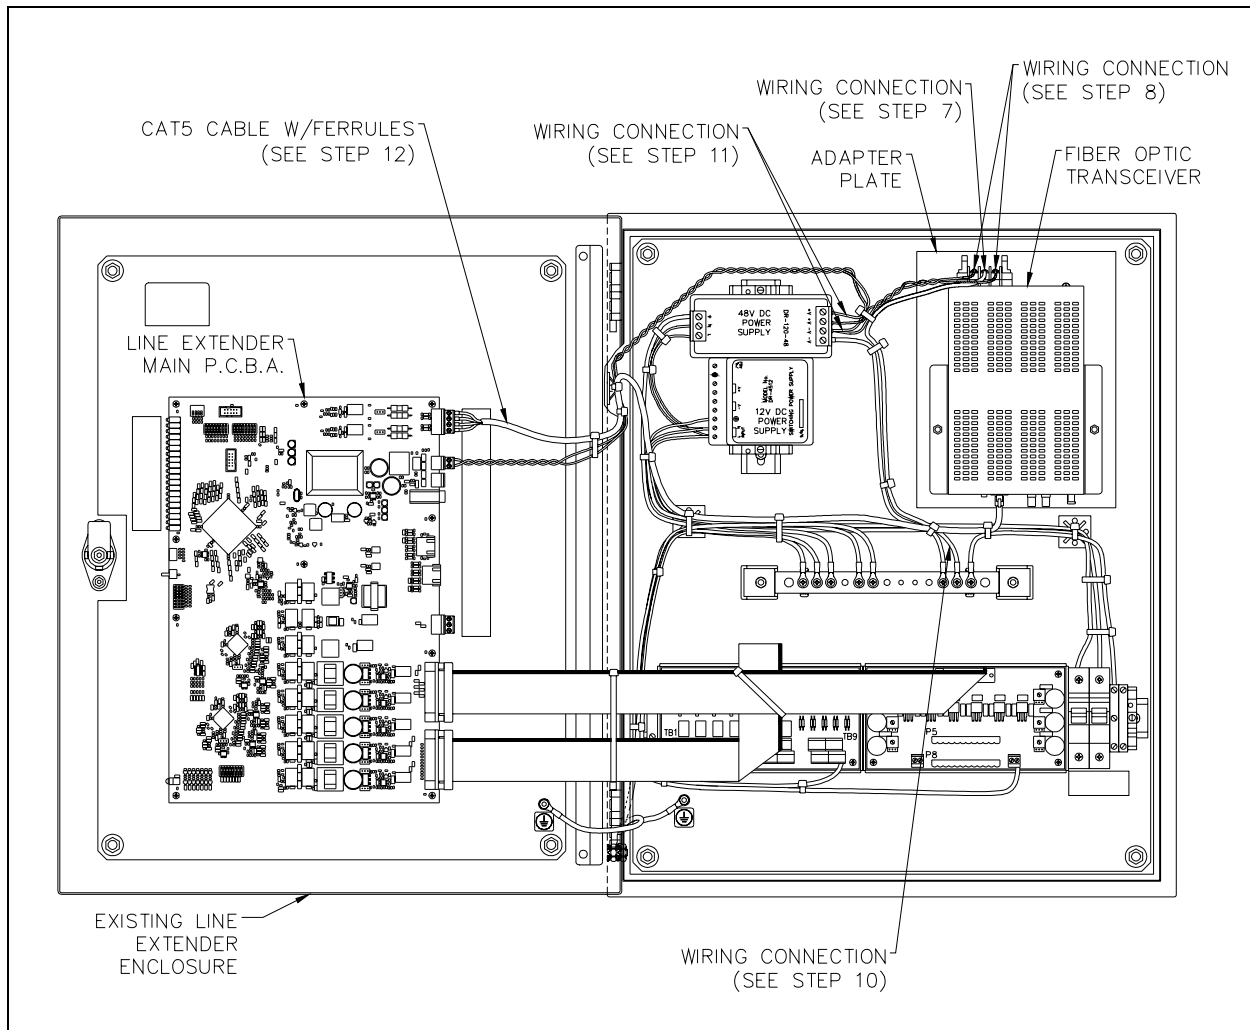

Figure 2.
7. Using the supplied green/yellow wire, connect the ring lug to one end and connect a #6 14–16 AWG spade terminal to the opposite end. Connect the spade terminal of the green/yellow wire to ground on the new Fiber Optic Transceiver before installation into the enclosure. See Figure 2.
8. Using the red and black twisted pair wires previously saved, on one end replace the ferrule on each of the wires with a #6 22–16 AWG spade terminal. Using the side with the spade terminals, connect the red wire to the “+” terminal and the black wire to the “-” terminal at the new Fiber Optic Transceiver before installation into the enclosure. See Figure 2.
11. At the 48 V dc power supply, disconnect the black wire at the V– termination. Remove the existing ferrule. Combine this black wire with the black wire coming from the new Fiber Optic Transceiver and attach the supplied twin 2 × 18–20 AWG ferrule. Connect this ferrule back to the V– termination at the 48 V dc power supply. Connect the red wire coming from the new Fiber Optic Transceiver to the V+ termination at the 48 V dc power supply. See Figure 2.
12. Install the CAT5 cable with ferrules to the connector P19 on the Line Extender Main PCBA as described below. Plug the RJ45 connector into the Fiber Optic Transceiver. Refer to Figure 2.
13. Use tie cables wherever is necessary. Refer to Figure 2.